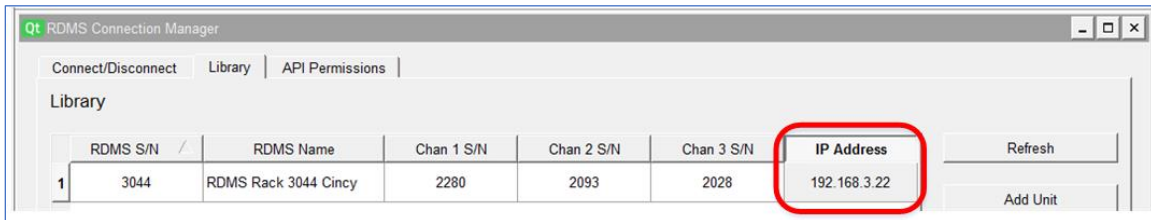

Figure 16: Library Tab, IP Address Added to Library List
5. Type the IP Address for the RDMS, as shown in Figure 16. This is optional (not required for logging), but it allows control of the RDMS using the Quasonix API. You **MUST** include the periods between the digits, such as “192.168.3.22”. The software will accept an entry without them, such as “192168322” and will save the entry when submitted. However, it is treated as an invalid number. If the IP address is invalid or blank, the Status Logger is connected to the RDMS, but the RDMS Control selection is greyed out. If your facility does not allow Internet access, then leave the IP Address field blank. It prevents the software from spending a long time searching for an IP Address it cannot access.